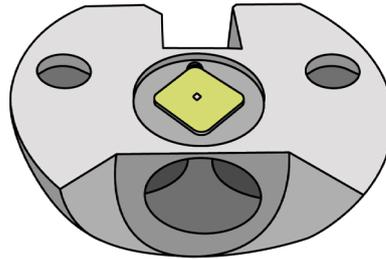

Figure 7. Fluid cell with chip in place.
- Place the chip with the cavity side facing down into the square depression in the fluid cell (Figure 7).